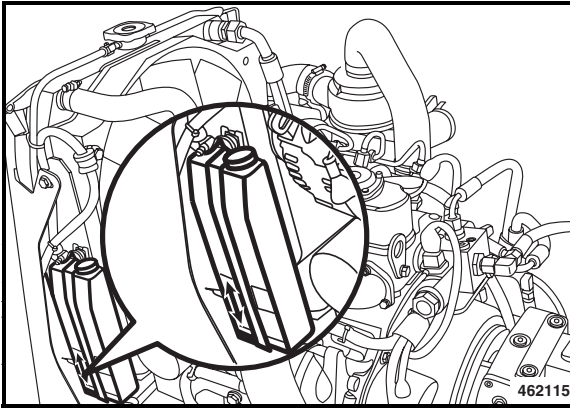

Fig. 147
- Remove the cap (Fig. 147) from the coolant compensation tank and check the anti-freeze concentration with a conventional tester.